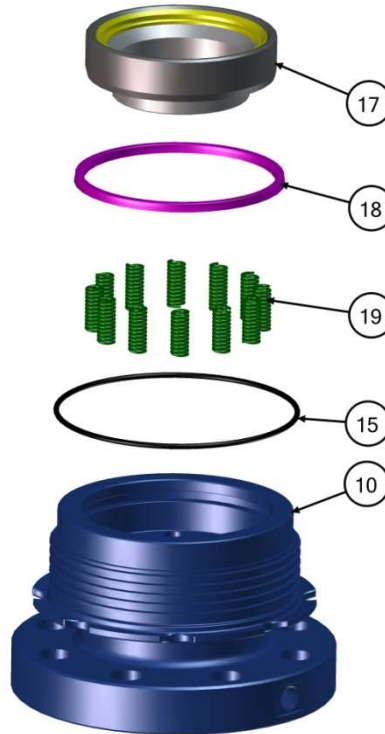

FIGURE 18
- 1) Set the tailpiece (10) (**FIGURE 18**) on the flanged end.
- 3) Install the o-ring (15) over the threads of the tailpiece and against the scalloped flange.
- 4) Insert the compression springs (19) into the spring holes.
- 5) Install the internal polypak (18), with the sealing lip facing downward. For 4" valves install the external polypak and o-ring on the seat carrier.
- 7) Install the seat carrier assembly (17) into the tailpiece. (Use a combination of down force and rotation to assist installation.)